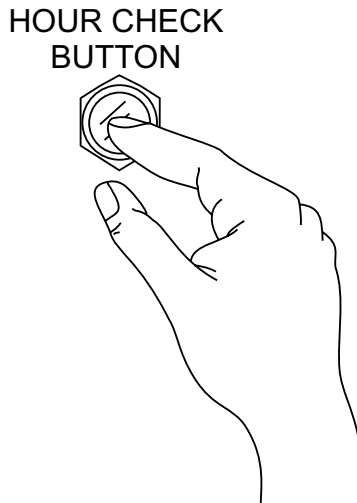

Figure 91. Hour Check Button
1. With the engine stopped (**OFF**), push and hold the **Hour Check Button** (Figure 91) located on the control panel.